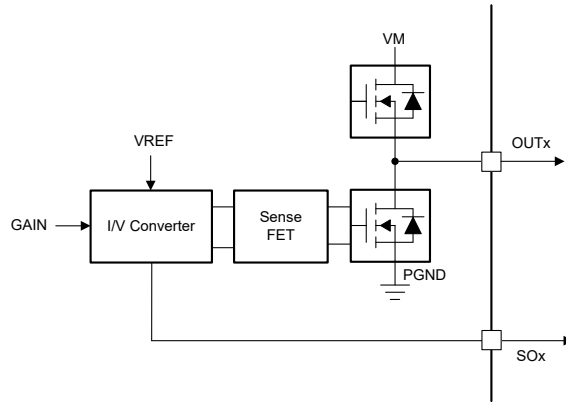

图 8-19. Integrated Current Sense Amplifier
图 8-19 shows the internal architecture of the current sense amplifiers. The current sense is implemented with a sense FET on each low-side FET of the DRV8317 device. This current information is converted in to a voltage based on the CSAREF pin (VREF) input and the CSA gain setting; this voltage is available on the SOx pin. The CSA output voltage can be calculated using 方程式 2
$$SOx = V_{REF}/2 + (G_{CSA} * I_{OUTx}), \text{ wherein } I_{OUTx} \text{ is considered positive in the direction shown in 图 8-19.} \quad (2)$$